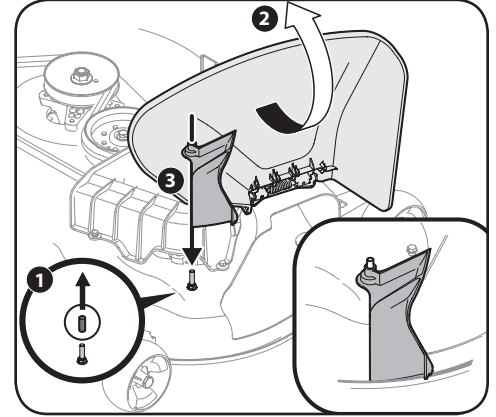

Figure 4-26
- Remove the deck pin rubber protective cap, 1 in Figure 4-26.
- Raise the chute deflector (2 in Figure 4-26) on the deck and hold it while you install the (731-10133) chute adapter (3), included in hardware pack 689-01419, onto the deck as shown in Figure 4-26.